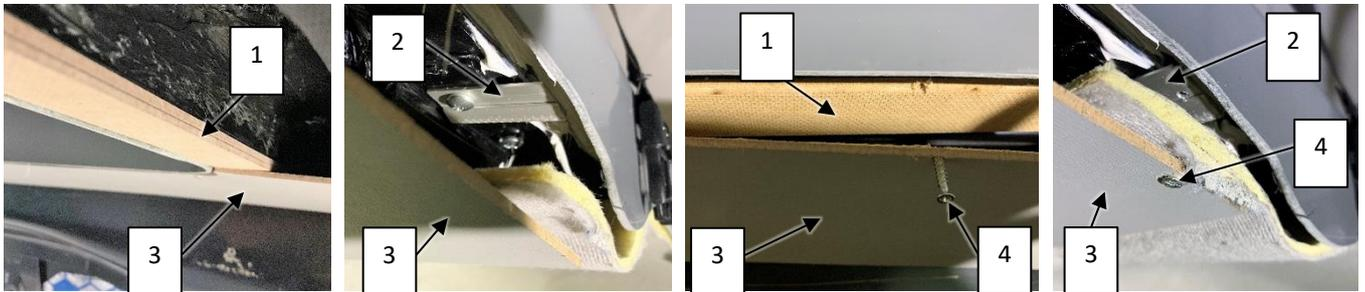
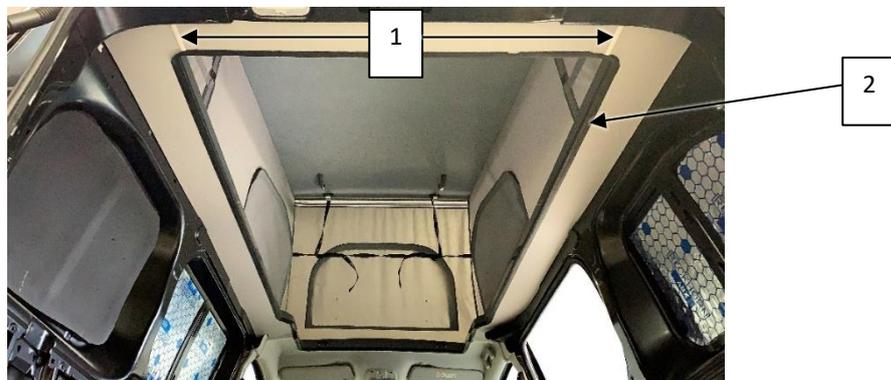

Fig. 10-1: Fixing the wood panelling
Fig. 10-2: Headlining with trim set
- Glue pieces of wood (see fig. 10-1, 1) to the metal frame for height compensation.
- Screw the metal plates (2) to the B-pillars for a better hold of the headlining
- Cover the trim pieces (3) as desired and screw them on (4)
- Cover the gaps between the trim pieces (see fig. 10-2, 1)
- Cover the transition from the EasyFit frame to the headlining with the lip profile (see fig. 10-2, 2).